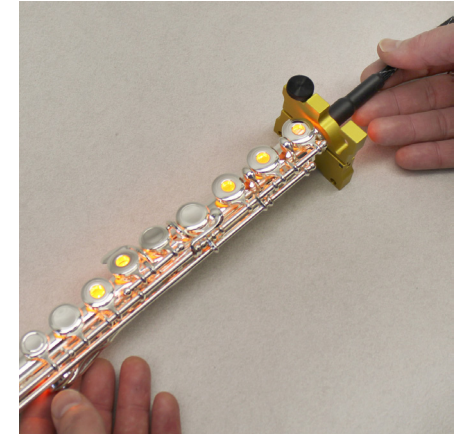

Fig. 10: Leak light inserts from either end.
- Convenient design allows for leak light insertion from either end. (Fig. 10)